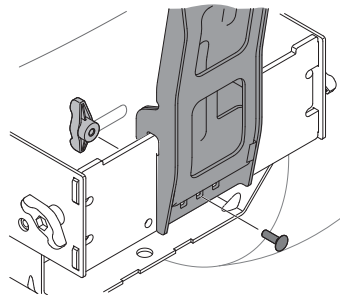

Figure 10
3. Secure the bag support assembly to the mounting assembly using a carriage bolt (710-0276) and wing knob (720-04122) from hardware pack 689-02364. See Figure 10.